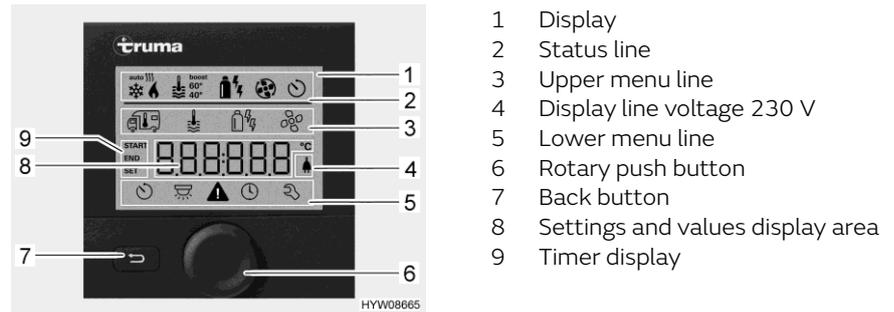
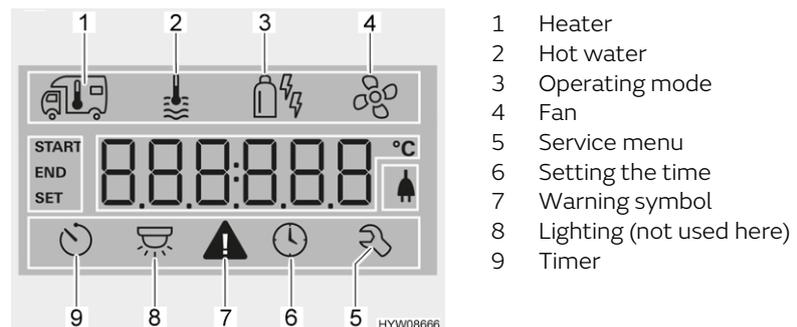

Fig. 142 Operating unit with displays
Fig. 143 Display (operating unit)
- Status line (Fig. 142,2)
- Upper menu line (Fig. 142,3)
- Display area (Fig. 142,8)
- Lower menu line (Fig. 142,5)
- Press and hold the rotary push button (Fig. 142,6) for approx. 3 seconds. Both menu lines (Fig. 142,3 and Fig. 142,5) are displayed. The first symbol flashes.
- Turn rotary push button (Fig. 142,6) until the required menu symbol flashes.
- Press rotary push button to save the value set. If you do not wish to change the value originally set: Press back button (Fig. 142,7).
- Turn rotary push button (Fig. 142,6) until the heater menu symbol (Fig. 143,1) flashes.
- Press rotary push button to save the value set. The symbol in the status line (Fig. 142,2) flashes until the room temperature set is reached. If you do not wish to change the value originally set: Press back button (Fig. 142,7).
- Turn rotary push button (Fig. 142,6) until the hot water menu symbol (Fig. 143,2) flashes.
- Press rotary push button to save the value set. The symbol in the status line (Fig. 142,2) flashes until the hot water temperature set is reached. If you do not wish to change the value originally set: Press back button (Fig. 142,7).
- Turn rotary push button (Fig. 142,6) until the menu symbol operating mode (Fig. 143,3) flashes.
- Press the rotary push button to save the set operating mode. To revert to the original setting: Press back button (Fig. 142,7).
- Turn rotary push button (Fig. 142,6) until the fan menu symbol (Fig. 143,4) flashes.
- Turn rotary push button (Fig. 142,6) until the timer menu symbol (Fig. 143,9) flashes.
- Press rotary push button. The timer is activated. The timer symbol (Fig. 143,9) flashes when the timer is programmed and active.
The warning symbol (Fig. 143,7) flashes in the event of a warning. The heater continues to operate. In the event of only a temporary fault, the warning symbol goes out automatically.